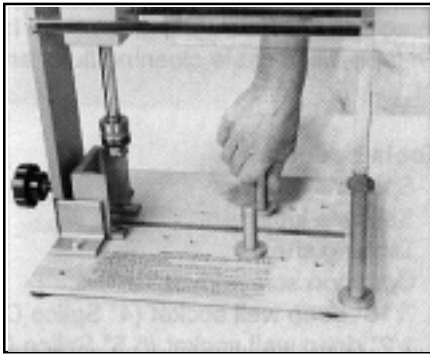

FIGURE 7 – PUT STOP POSTS INTO CUTTER
4.03 Insert stop-posts in tapped holes in base of cutter corresponding to the 6.5", 8.0" or 9.5" End Plate diameter and hand tighten firmly. (Figure 7)